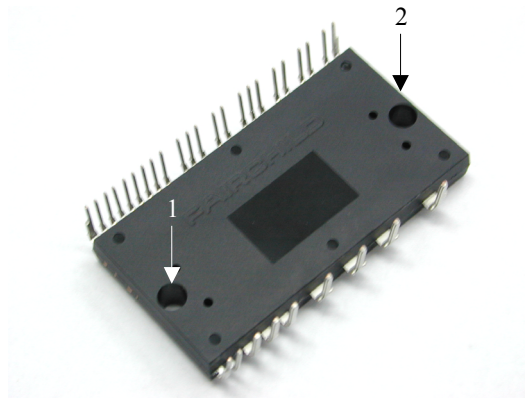

Fig. 9. Mounting Screws Torque Order
- 9. Avoid one side tightening stress. Fig.9 shows the recommended torque order for mounting screws. Uneven mounting can cause the SPM ceramic substrate to be damaged.